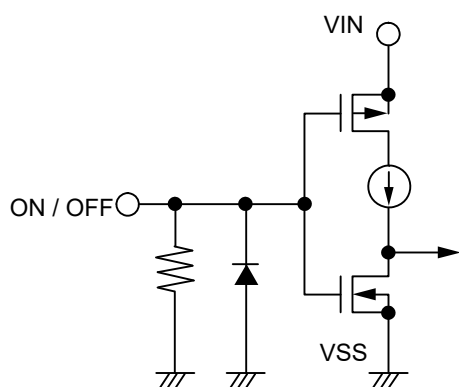

Figure 15 S-19255 Series A / C Type
Note that the current consumption increases when a voltage of 0.25 V to $V_{IN} - 0.3$ V is applied to the ON / OFF pin. The ON / OFF pin is configured as shown in **Figure 15** and **Figure 16**.
*2. Note that the IC's current consumption increases as much as current flows into the pull-down resistor when the ON / OFF pin is connected to the VIN pin and the S-19255 Series A / C type is operating (refer to **Figure 15**).